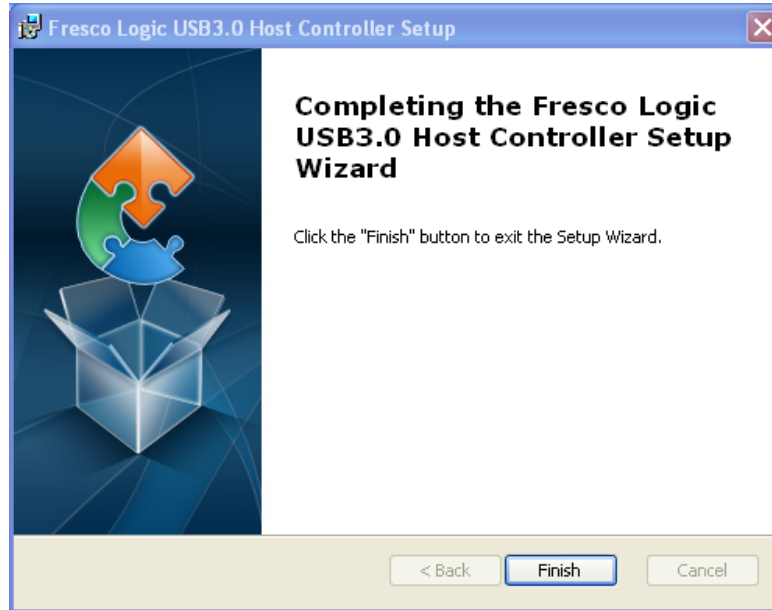

Figure 6-33: USB 3.0 Driver Installation Complete
Step 10: When the driver installation is complete, the screen in **Figure 6-33** appears.
Step 9: When the driver installation is complete, the screen in **Figure 6-33** appears.